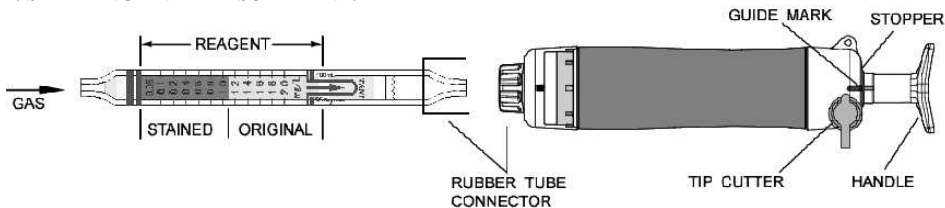

Fig.1
- ① Break both ends of the detector tube.
- ② Insert the detector tube into the aspirating pump securely as shown in Fig.1. (Arrow mark shall point to the pump.)
- ③ Align the guide marks on the handle and stopper of the aspirating pump.
- ④ Pull the pump handle at a full stroke until it locks and wait for 1 minute or until the completion of sampling is confirmed with the flow indicator of the pump. (See descriptions about the flow indicator in the instruction manual of the pump.)
- ⑤ On completion of sampling, read the scale at the maximum point of the stained layer.